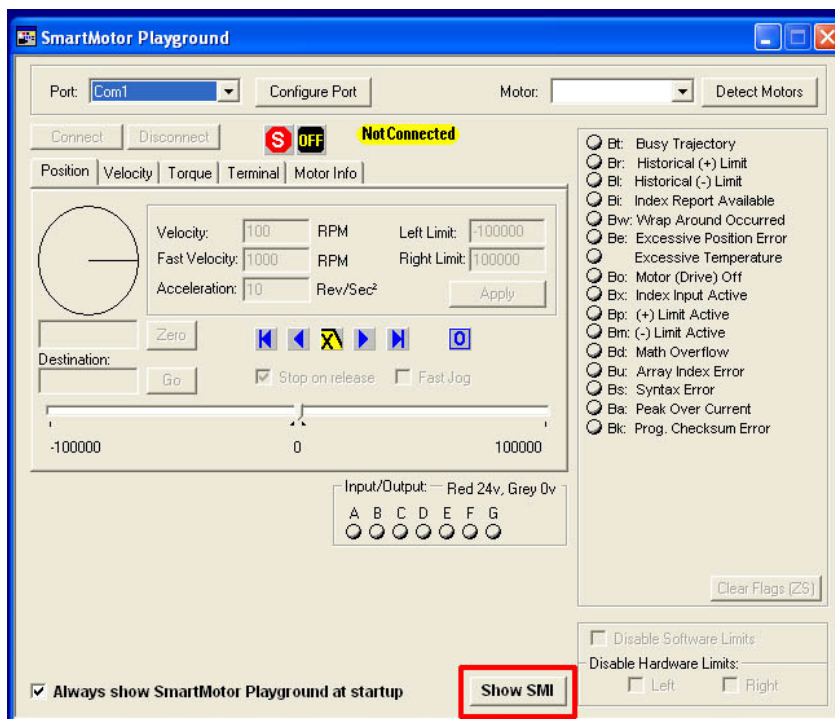
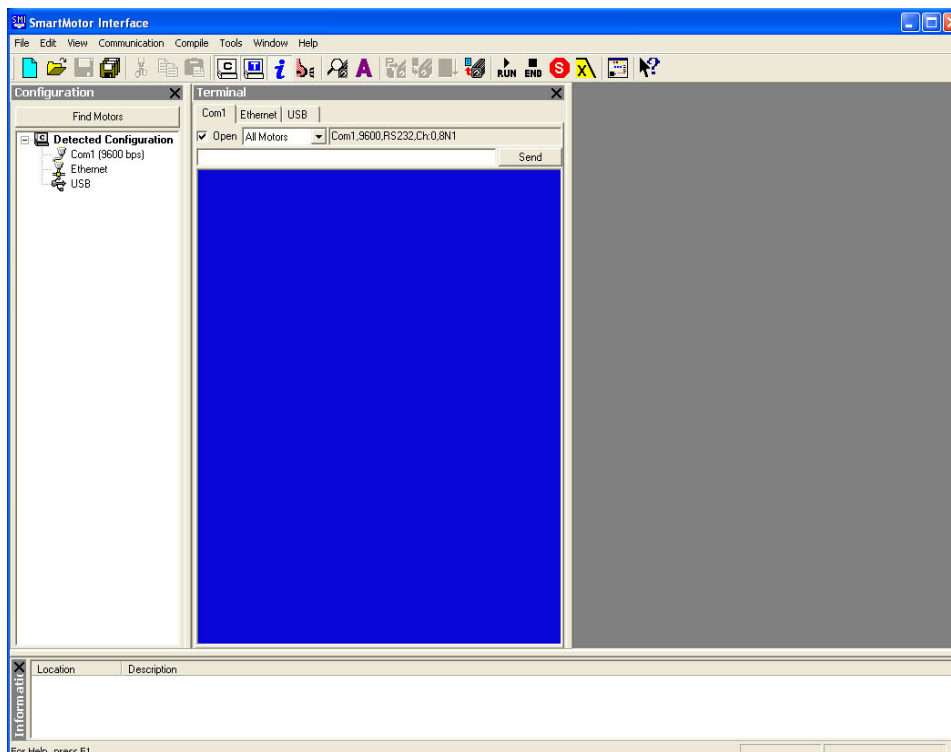

Figure 2. “Smart Motor Playground” window.
Figure 3. The Smart Motor Interface
4. If the program opens to the following screen, “Smart Motor Playground” (Figure 2), then click the “Show SMI” button at the bottom (Figure 2 red box) to get to the programming window, “Smart Motor Interface” (Figure 3). The Smart Motor Playground allows for manual, real time operation of the tumble stirrer through the software.
- To modify the program that is on the Smart Motor, go to the file menu “Communication” and select “Upload Program”, and select the correct motor. The current program will be opened in the main window of the “Smart Motor Interface” (Figure 3). Table 1 below shows an example of a factory installed program.